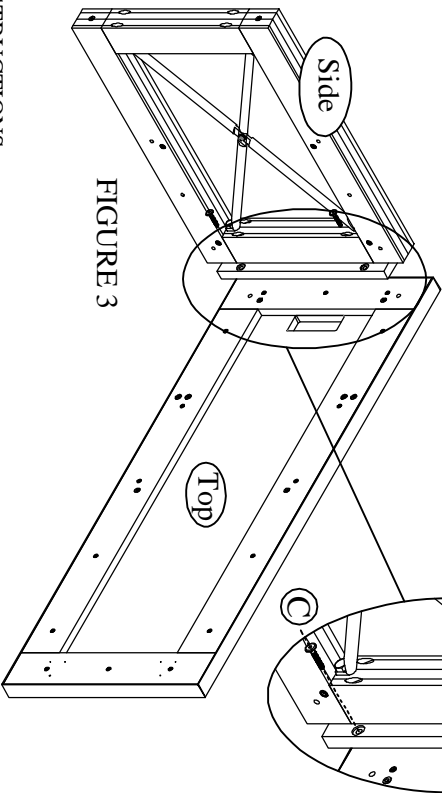

FIGURE 3
4. Install the SIDE PANE to the TOP by hand tightening with two BOLT 40mm (C) FIG. 3